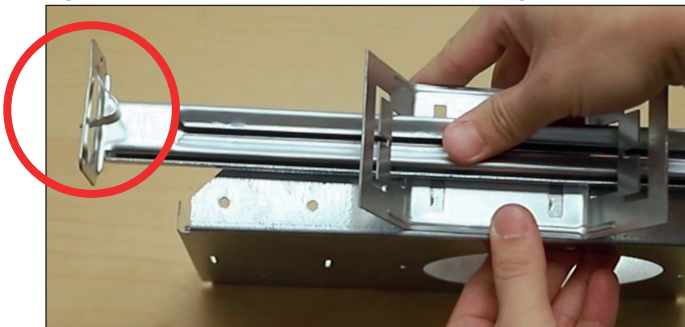

Fig. 4
- Secure hanger bars to Non-Electrical New construction housing by first ensuring the hanger bar securement tabs are oriented towards the bottom of the Non-Electrical New construction housing. [ Fig. 4 ]